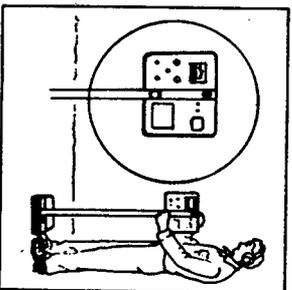

FIGURE 3b
2. With the transmitter on the ground, attach the receiver to the other end of the handle by tightly screwing in the aluminium knob but only screwing in the black knob until the spring pressure can be felt, see Figure 3b. (The back knob is used to the instrument)